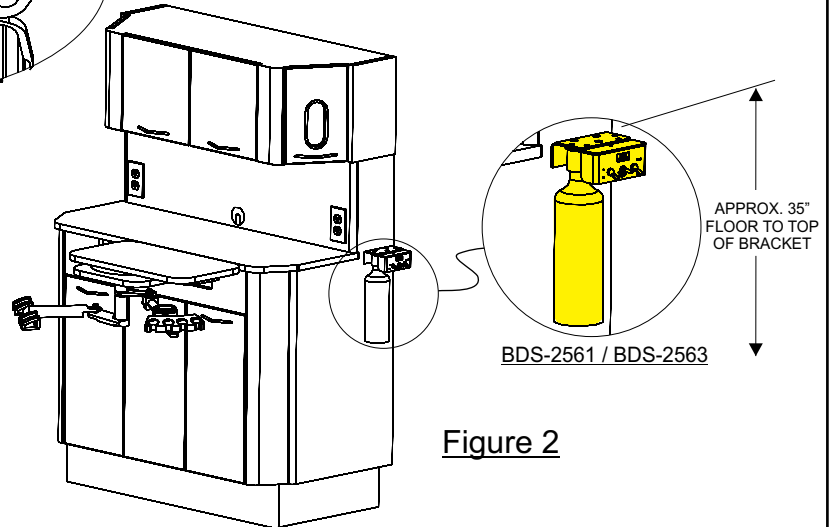

Figure 2
Connect Drain Assembly Nut (G) to Drain Assembly (E) along with the Small Plastic Washer (F) and hand tighten to check for alignment then use pipe wrench to complete tightening (see Figure 2). CAUTION: DO NOT OVERTIGHTEN
See Figure 2